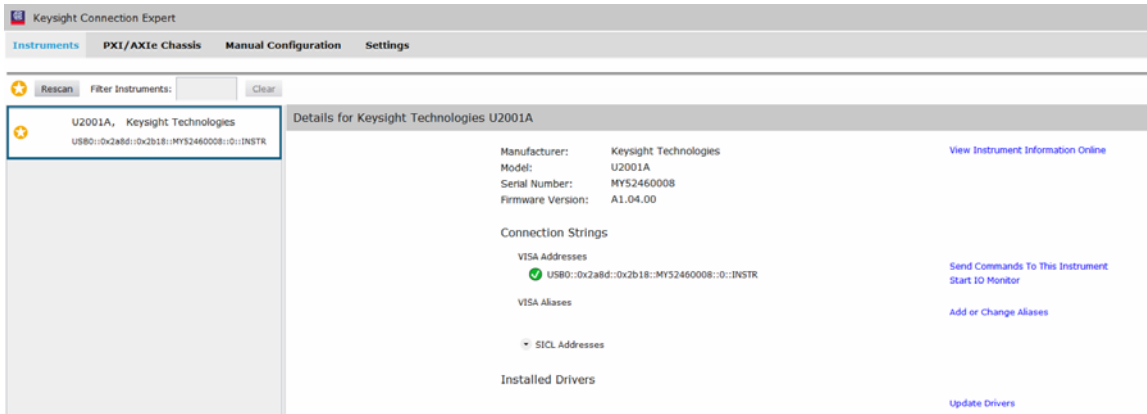

Figure 1-6 Auto-locate a USB instrument in Keysight Connection Expert
- 2 Launch the Keysight Connection Expert by selecting the IO icon (). Auto-locate the sensor as shown in Figure 1-6. Click **Rescan** to start searching.